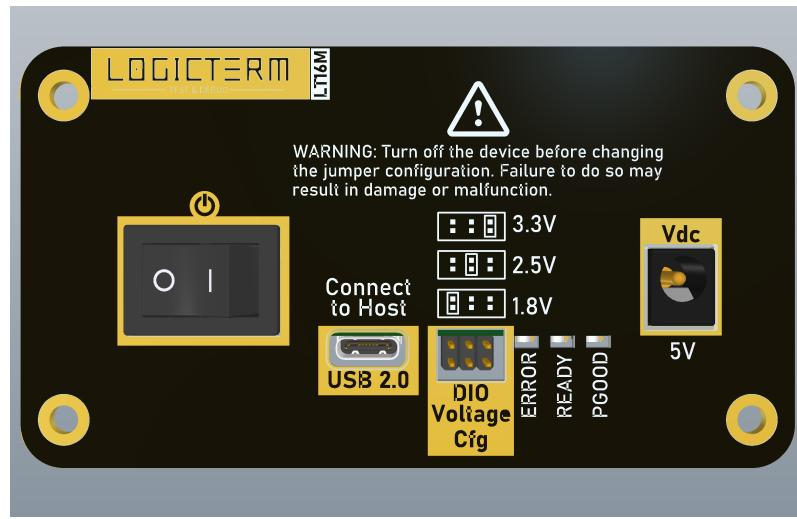

Figure 2.2: Back panel of LT16M showing jumper configuration
- **2 DACs (0–10V, 1 MS/s, 16-bit)** ③ ④
- **Programmable Power Supply (PPS)** with 7 current ranges and clamping ②
- **Fixed power rails:** 3.3V, 2.5V, 1.8V, 1.2V @ 200mA ⑤
- **User I/O:** RGB LED (ULED) ⑨ and push button (UBTN) ⑧
- **System status indicator** can be Red (Disconnected), Green (Ready), or Blue (Running) ⑩
- Selectable LVCMOS levels: 1.8V, 2.5V, 3.3V (via jumper, figure 2.2)
The LT16M supports three digital I/O voltage levels: 1.8V, 2.5V, and 3.3V. These are selected using a jumper on the back panel, refer to Figure 2.2.